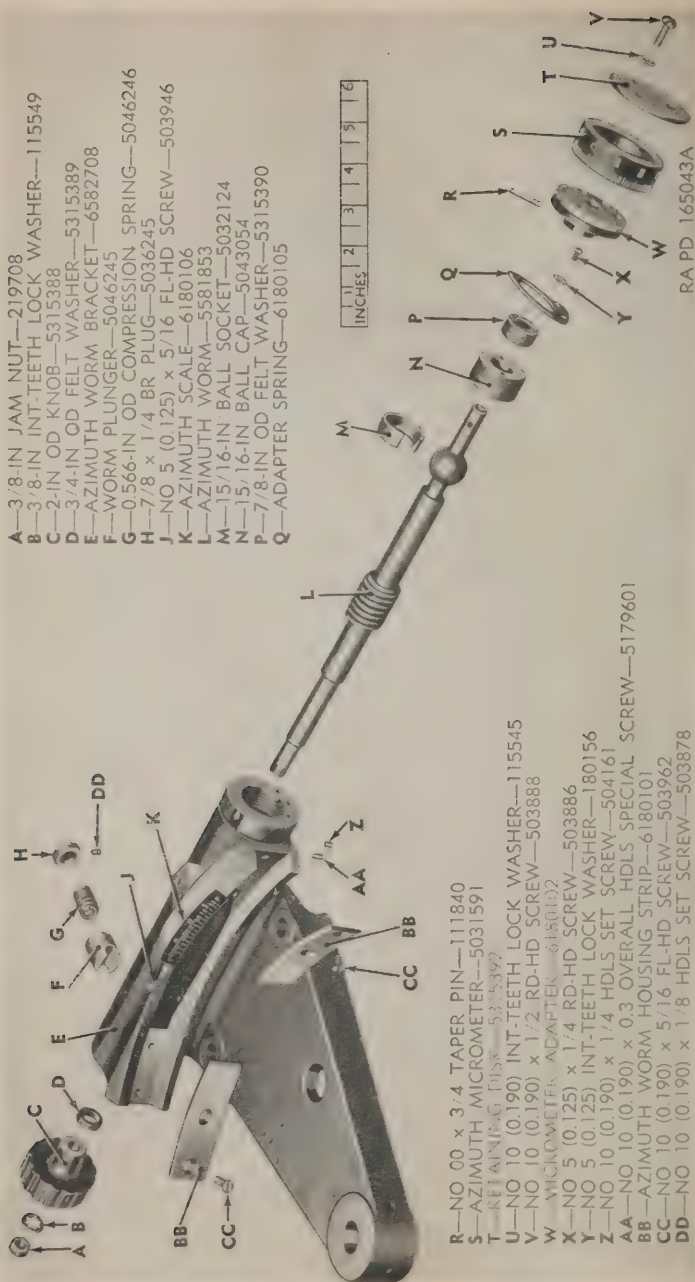

Figure 69. Telescope mounts M52C and M52D—azimuth worm bracket assembly—exploded view.
(fig. 69)
*k. Springs.* The adapter spring (fig. 69) will meet the following
test for serviceability. Lay the flat portion of the spring, containing the mounting holes upon a flat surface. The raised portion of the spring must measure  $0.275 \pm 0.010$  inch from the surface. Table VI lists the standards for a new compression spring (fig. 69). Replace all springs that are corroded, set, weak, distorted, or fail to meet these standards.
*Note.* The key letters noted in parentheses are in figure 69.
a. *Installation of the Azimuth Worm and Ball Socket.* Lap the  $1\frac{5}{16}$ -inch ball socket (M) (par. 33) to the azimuth worm (L). When